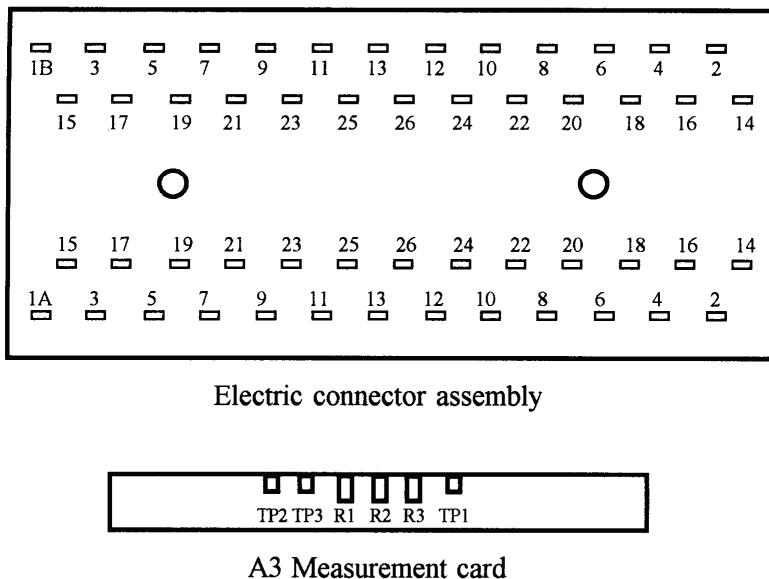

Figure 1. Test and connection points and adjustments.
- (1) Set the **FUNCTION** switch to **CONT. P.**
- (2) Set the **CABLE LENGTH** switch to **250**.
- (3) Set **AUTO/SINGLE** switch to **SINGLE**.
- (4) Press the **RESET** pushbutton.
- (5) Set resistance standard No. 2 for 20.4Ω and connect between pins 1A and 1B (fig. 1) of the electric connector assembly (connected to end of adapter cable).
- (6) Press the **ADVANCE** pushbutton once to test circuit **01**. **TI TEST** light and **FAULT** light will be on; if not, perform **b** below.
- (7) Press the **RESET** pushbutton and set resistance standard No. 2 for 19.6Ω .
- (8) Press the **ADVANCE** pushbutton once to test circuit **01**. **TI FAULT** light will remain off; if not, perform **b** below.
- (9) Press the **RESET** pushbutton.
- (1) Set **POWER** switch to **OFF** and disconnect power cable from ac power source.
- (2) Remove TI from its casing. Remove the end plate (located near the interface connector J100). Ensure that potentiometers R1, R2, and R3 and the test points TP1, TP2, and TP3, located on A3 measurement card, are readily accessible (fig. 1).
- (3) Reconnect TI to ac source and set **POWER** switch to **A.C.**
- (4) Set the **FUNCTION** switch to **CONT. P.**
- (5) Set the **CABLE LENGTH** switch to **250**.
- (6) Set **AUTO/SINGLE** switch to **SINGLE**.
- (7) Press the **RESET** pushbutton.
- (8) Press the **ADVANCE** pushbutton once; circuit **01** will be under test, **FAULT** light and **TEST** light should be on.
- (9) Set resistance standard No. 2 for 20.0Ω and connect between pins 1A and 1B (fig. 1) of the electric connector assembly (connected to end of adapter cable).
- (10) Monitor dc voltage at TP2 with the multimeter using the cage as the ground reference.
- (11) Adjust R1 so that the voltage at TP2 is about 2.5 V (this voltage is unstable and just between the high and low crossover points) (R).
- (12) Press the **RESET** pushbutton and disconnect resistance standard No. 2.
- (13) Set **FUNCTION** switch to **IR (0.1M)**.
- (14) Set **AUTO/SINGLE** switch to **SINGLE**.
- (15) Press the **ADVANCE** pushbutton once; the **TEST** light should be on and the **FAULT** light should be off.
- (16) Set resistance standard No. 2 for $100 \text{ k}\Omega$ and connect between pins 1A and 1B (fig. 1) of the electric connector assembly (connected to end of adapter cable).
- (17) Use the multimeter to measure dc voltage at TP1, with the cage as ground reference. The voltage should be about 900 mV; record the exact reading.
- (18) Monitor the dc voltage reading at TP3; if it is different from that at TP1, adjust R3 so that voltage at TP3 is the same ($\pm 1 \text{ mV}$) as that at TP1 (R).
- (19) Press the **RESET** pushbutton and disconnect resistance standard No. 2.
(20) Set **FUNCTION** switch to **IR (10M)**.
(21) Set **AUTO/SINGLE** switch to **SINGLE**.